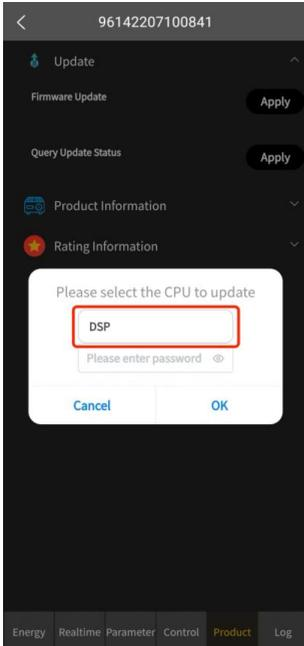

Figure 1
5. Click the selection box circled in red in Figure 1 to call the drop-down box option. Select the CPU to be updated. In the example shown in Figure 2, DSP is selected.